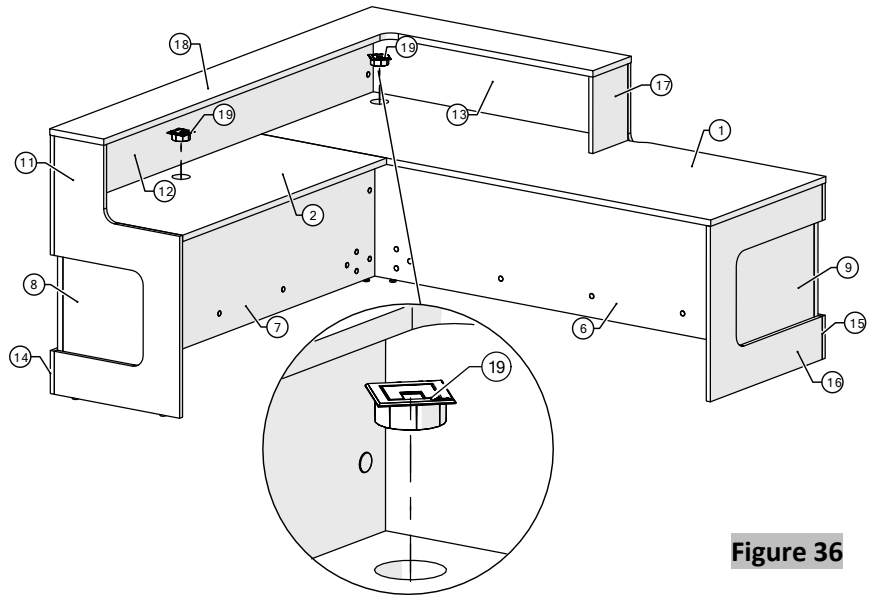

Figure 36
33. Insert the grommets into the grommet holes (Figure 36).